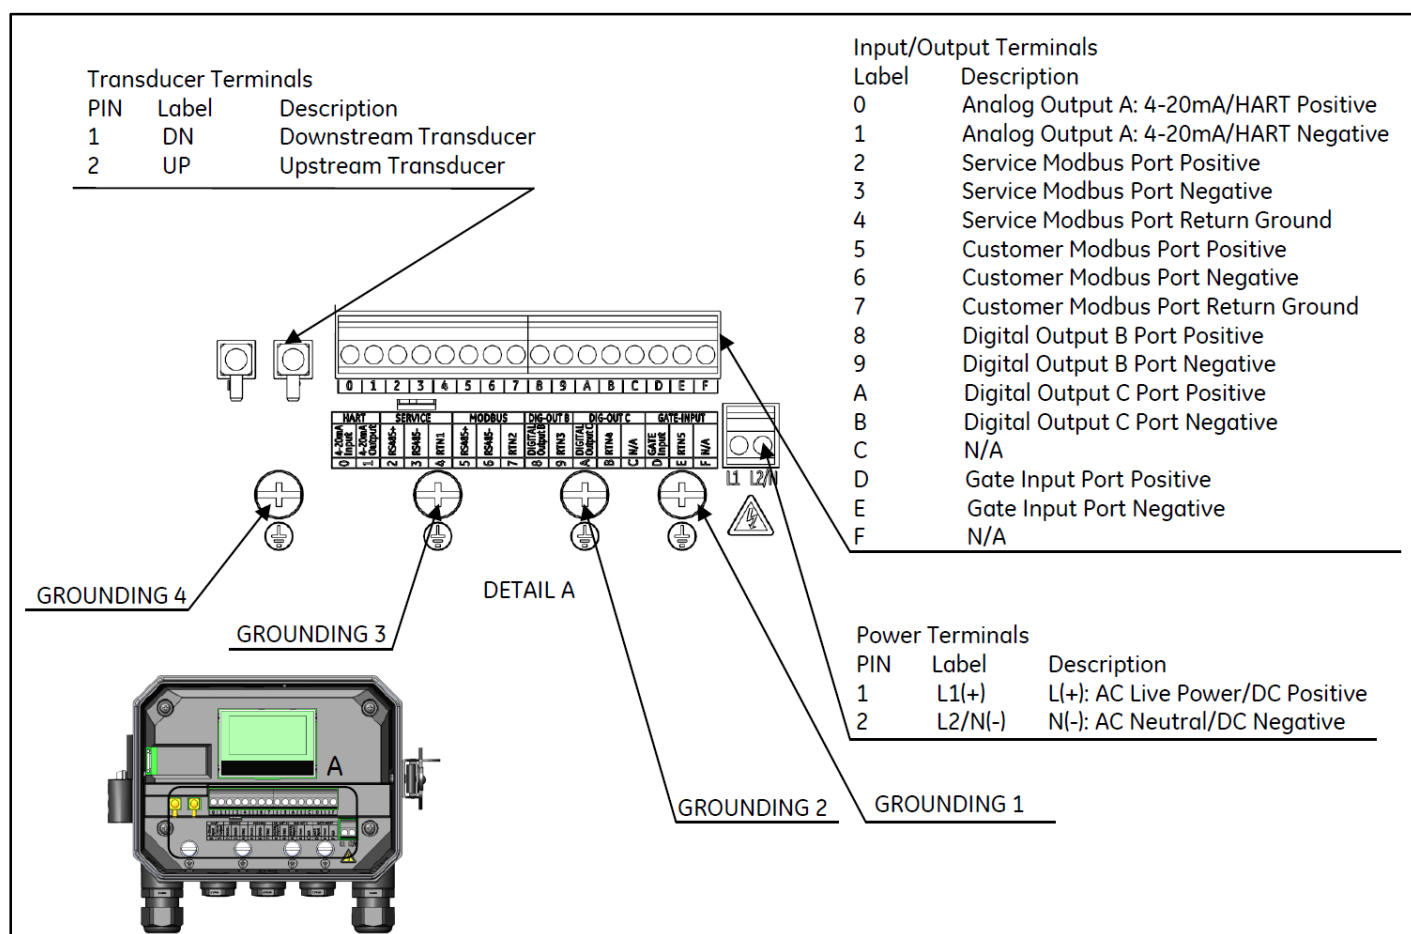

Figure 14: Wiring Diagram
Refer to *Figure 14* to locate terminal block and connect the line power as follows:
2. Connect the ground lead to the internal ground connection (GROUNDING 1) located on the bottom panel of the enclosure (See Figure 14).
3. Connect the neutral or line lead (or the negative – DC power lead) to L2/N(-) and the line power lead (or the positive +DC power lead) to L1(+) as shown in Figure 14.
2. Connect the cable connector with yellow "DN" jacket on the cable to DN and connect cable connector with white "UP" jacket on the cable to UP as shown in *Figure 14*. Then, secure the cable gland.
3. Refer to *Figure 14* for the location of terminal block I/O and wire the terminal block as shown. Secure the cable clamp.
To wiring Modbus RS485 serial port, refer to *Figure 14* and complete the following steps: